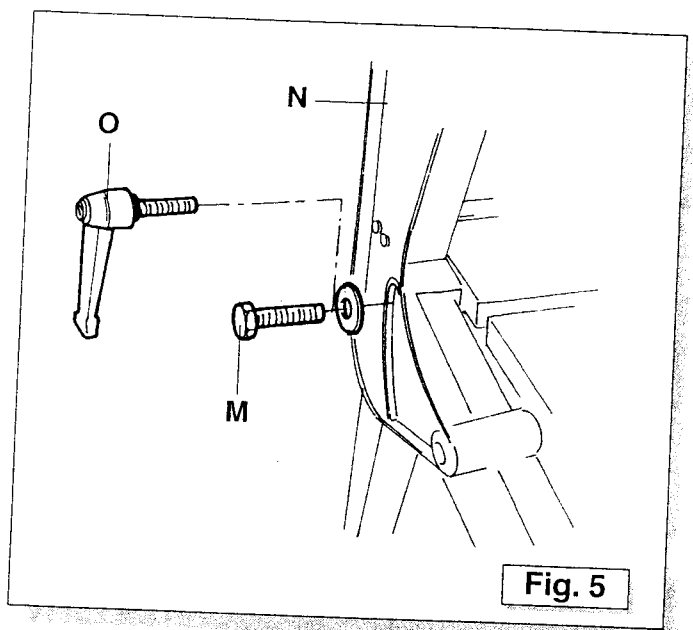

Fig. 5
- Replace the screws M (Fig. 5) of the tilting bridge N (Fig. 5) with the M10 lever knobs O (Fig. 5) supplied loose with the machine.